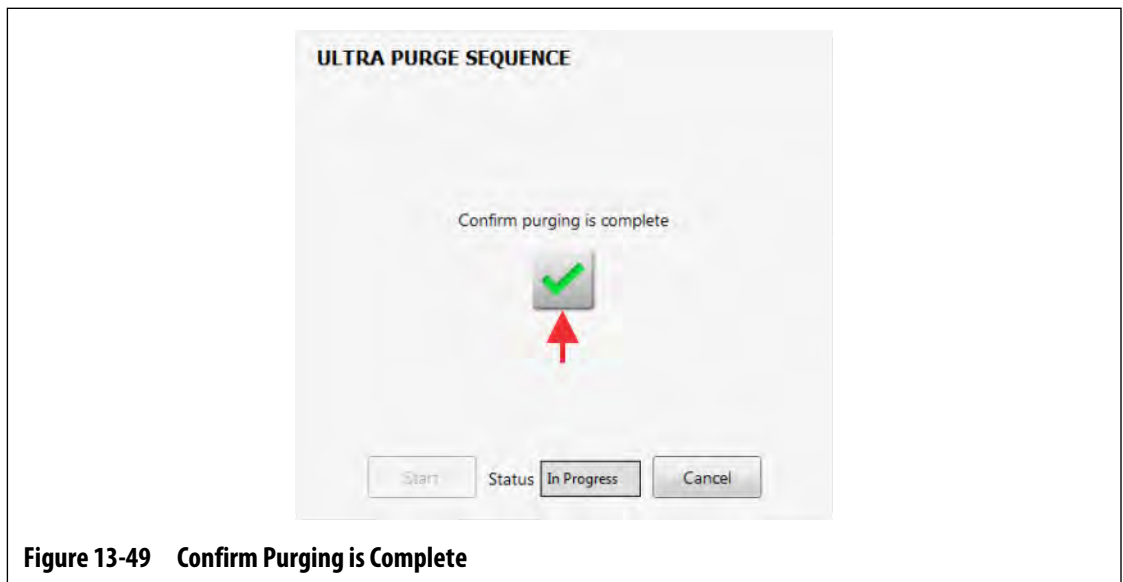

Figure 13-49 Confirm Purging is Complete
- 17. Touch the green check mark button to confirm that the purging has completed (Figure 13-49).